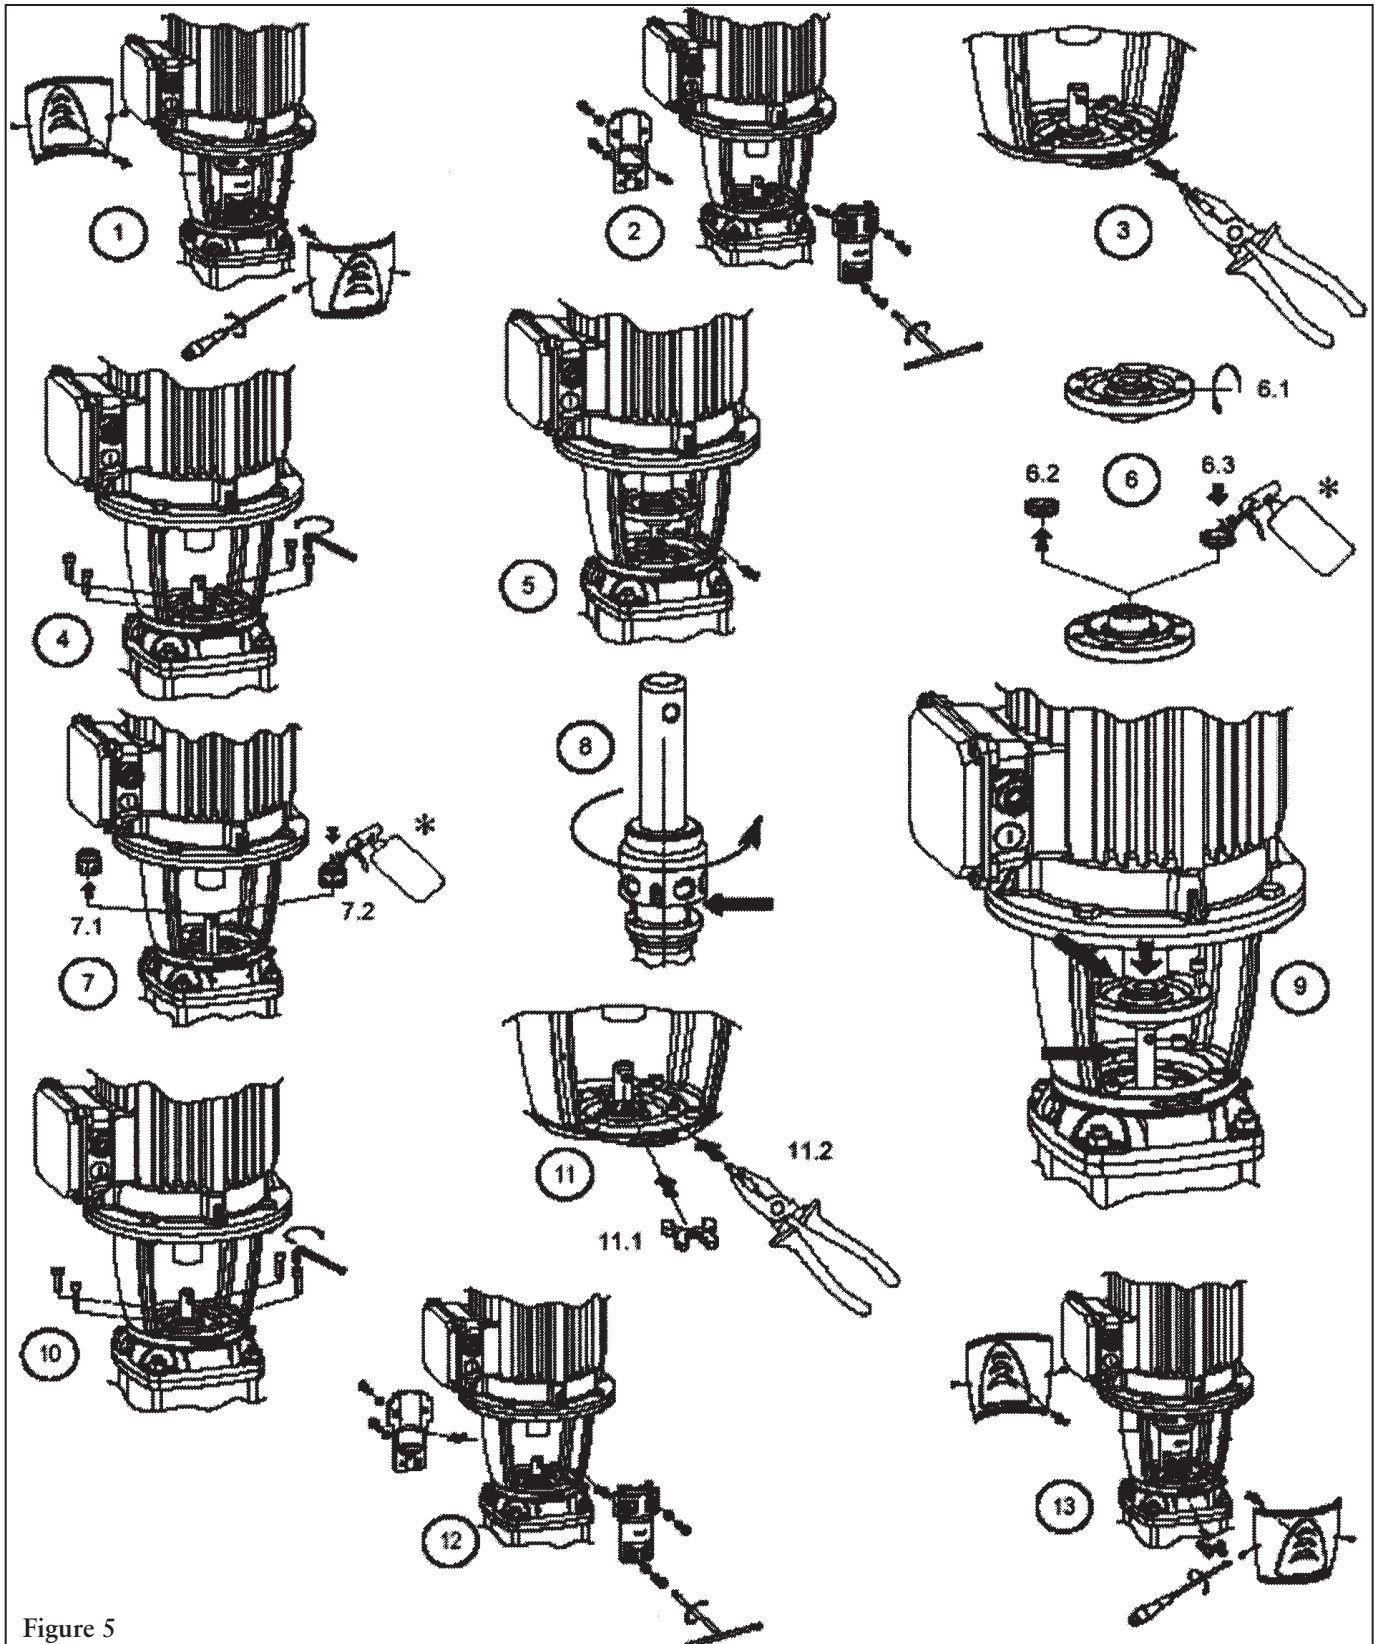

Figure 5
smooth with (fine grit) emery paper. See step 7 in Figure 5.
8. Lubricate the o-ring located in the ID of the rotary unit of the mechanical seal with a lubricant compatible with the seal elastomers. Carefully slide the rotary unit of the mechanical seal down the shaft. Rotate the seal to locate the pin on the bottom of the seal with the holes in the shaft sleeve. See step 8 in Figure 5.
Carefully reinstall the seal housing between the pump and motor shaft and slide the seal housing down the shaft into position. **Use caution when mounting the sealhousing between the pump/motor shaft so that the seal face on the stationary seat is not damaged.** See step 9 in Figure 5.
10. Reinstall the 4 hex cap screws, tightening the screws evenly and then torquing them to the values given in the engineering data. See step 10 in Figure 5.
11. Reinstall the coupling pin and locate the space shim on the shaft on the seal housing. **If the shim is not available, a 5 mm spacer can be used.** See step 11 in Figure 5.
12. Reinstall the coupling halves and evenly tighten the coupling bolts and torque them to the values given in the coupling section. Remove the spacer shim and save for future use. See step 12 in Figure 5.